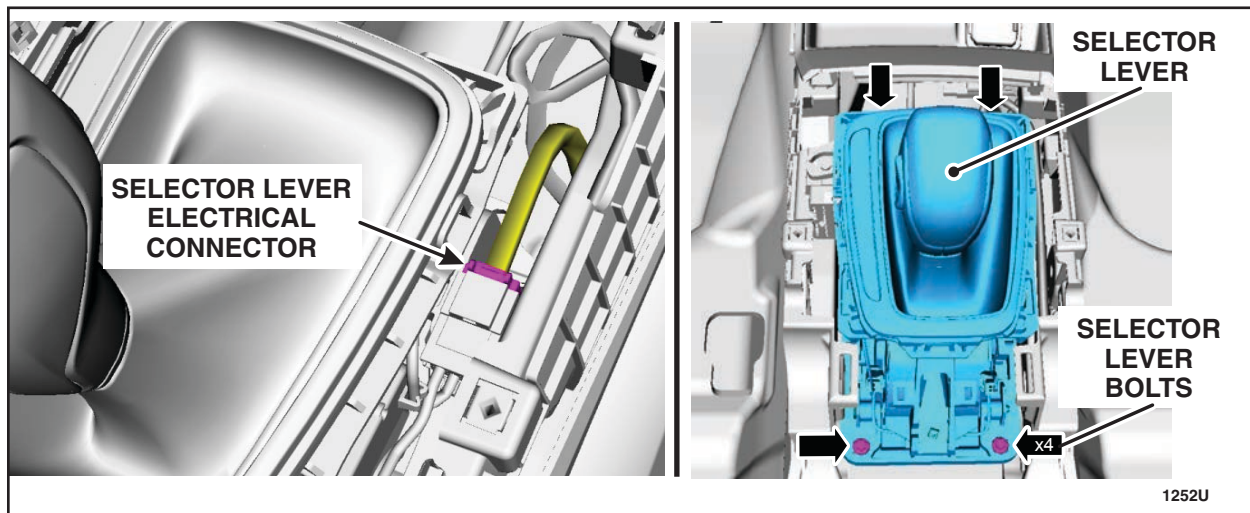

FIGURE 17
28. Disconnect the selector lever electrical connector. Remove the four bolts and remove the selector lever. See Figure 17.
9. Install the selector lever and tighten the four bolts. Connect the selector lever electrical connector. See Figure 17.